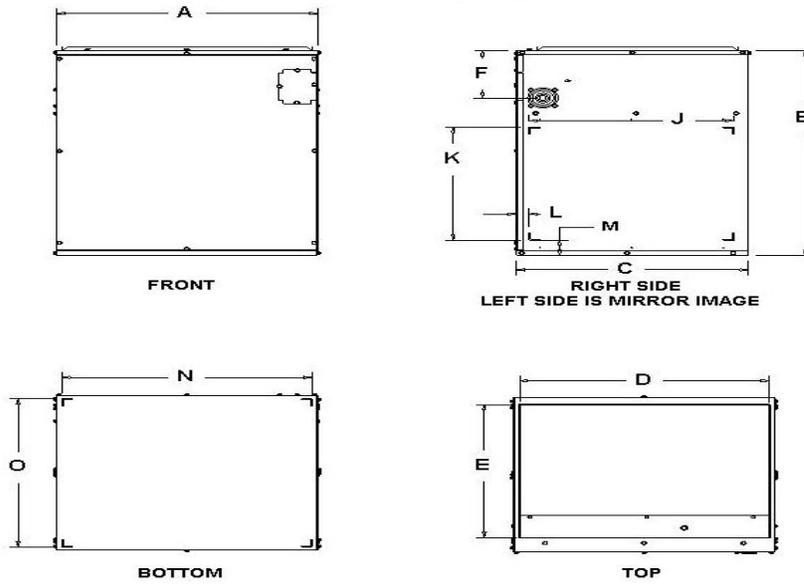

Figure 1: DIMENSIONAL DATA MODULAR ELECTRIC HEAT
1. Refer to the unit rating plate for the air handler model number, and then see the dimensions page of this instruction for return air plenum dimensions in Figures 1 and 2. The plenum must be installed according to the above listed codes or the instructions in this manual.